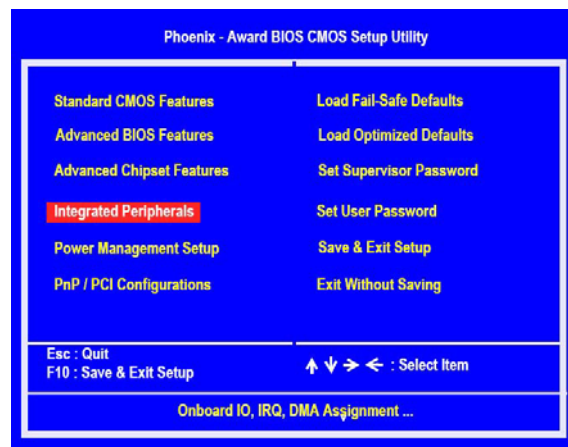

Figure 2.1 BIOS CMOS Setup Utility Main Window
2. Use the arrow keys to select Integrated Peripherals (see Figure 2.1), then press Enter. The Integrated Peripherals window appears.